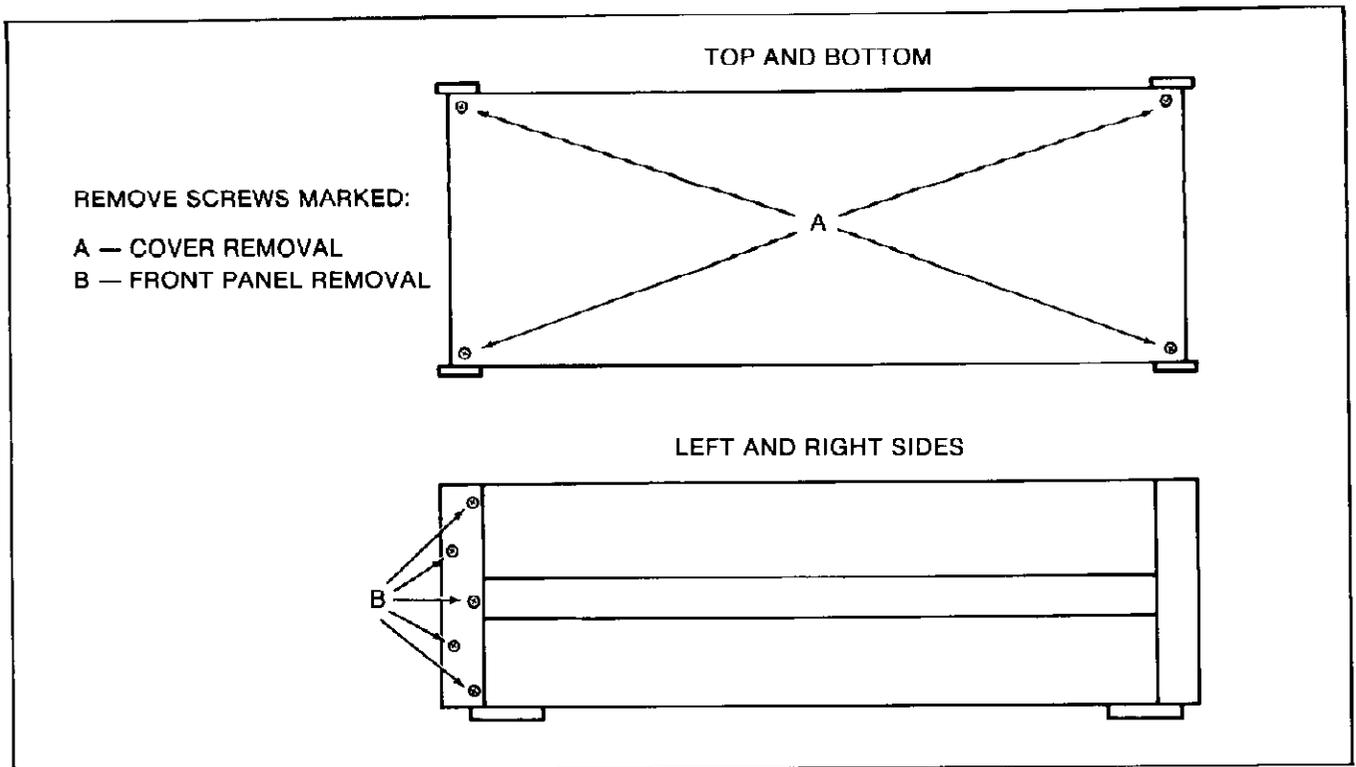

Figure 4-1. Cover and Front Panel Screw Locations
4-12. Use the following procedure to access the interior of the 732A. (Refer to Figure 4-1.)
2. Peel the decal from both of the front corner side moldings and remove the exposed screws. Refer to Figure 4-1 for screw locations.